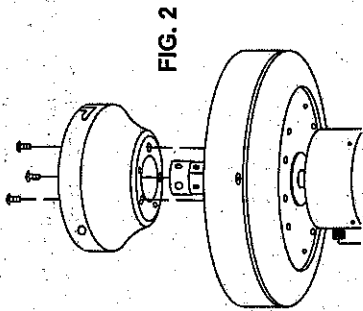

FIG. 2
- Put the canopy pass the electrical supply leads and align the screws holes on the boss which is on the top of housing. Using the three flush mount set screws (provided with screws pack) to screwed the canopy onto the fan, please make sure the screw is firmly. It will cause the wobble or risk of falling down if the canopy didn't be screwed tightly and properly. (See Fig 2)/page 5